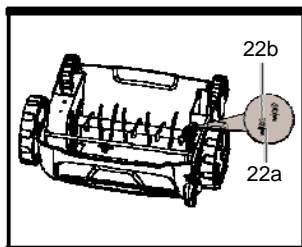
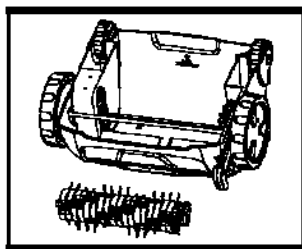

Fig. 12a
Fig. 12b
- 3). Loosen the two bolts (22a) with a suitable wrench, remove them together with the spring washers (22b) and the attached cutting device (21 or 23). (See Fig. 12a).
- 4). To remove the cutting device, first lift the bearing and then pull it off of the drive shaft (25).
- 5). Align and insert the respective cutting device: Slide the hex nut into the socket of the driving shaft (25) and fix the bearing to the support with the bolts (22a) and spring washers (22b). (See Fig. 12b).